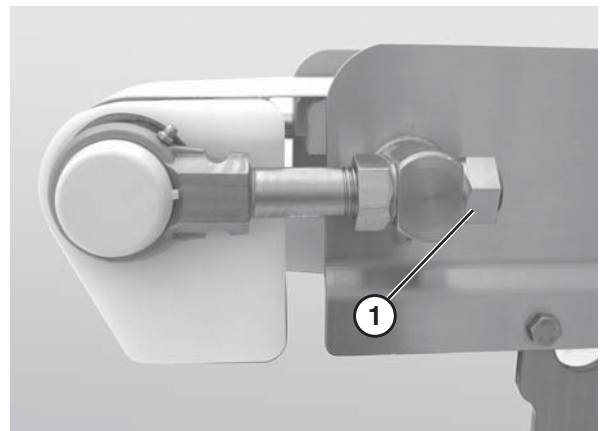

Figure 45
1. Loosen the back nuts (Figure 45, item 1) on both sides of the idler tail shaft.